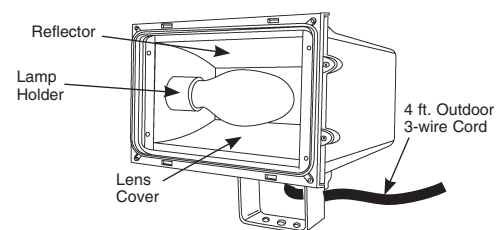

Figure 2 (Mount Fixture horizontal)
2. Install Trunion Mounting Bracket to desired location. Fixture should be horizontal when attached to mounting bracket. (See Figure 2)
3. Loosen (2) screws and open Lens cover. Remove lens cover and set aside to prevent damage during installation of fixture.
4. Loosen (4) screws and remove reflector/lampholder assembly.